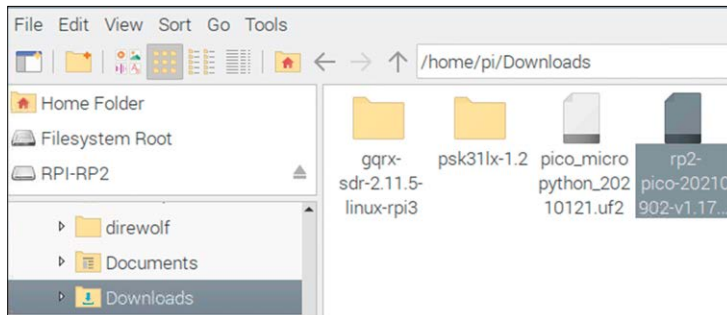

Figure 2.6: Locate file with extension: **.uf2**.
- Open the **Downloads** folder (under **/home/pi**) and locate the file with the extension: **.uf2**. This file will have the name similar to: **rp2-pico-20210902-v1.17.uf2** (Figure 2.6).
- Drag and drop this file onto the Raspberry Pi Pico's removable drive called: **RPI-RP2** (at the top left side of the screen – see Figure 2.6).